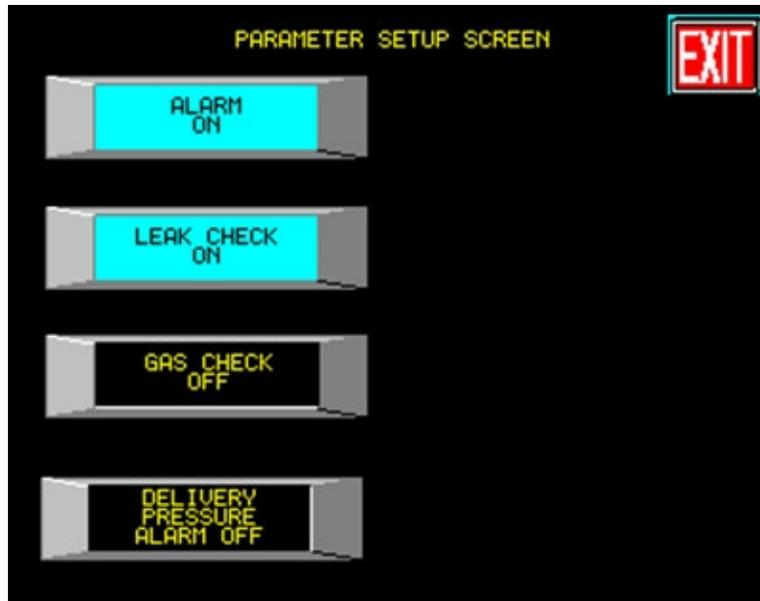

Fig. 3.1
Press the button labeled PARAMETER SETUP (4). A secure access control screen will appear, like the one in figure 2.1. Press the logon button, the next screen will ask for your username (see Username and Password section). After entering the correct username press the enter button, a new screen will appear asking for your password. Enter your password then press the enter button. You will now be at the parameter setup screen (figure 3.1).